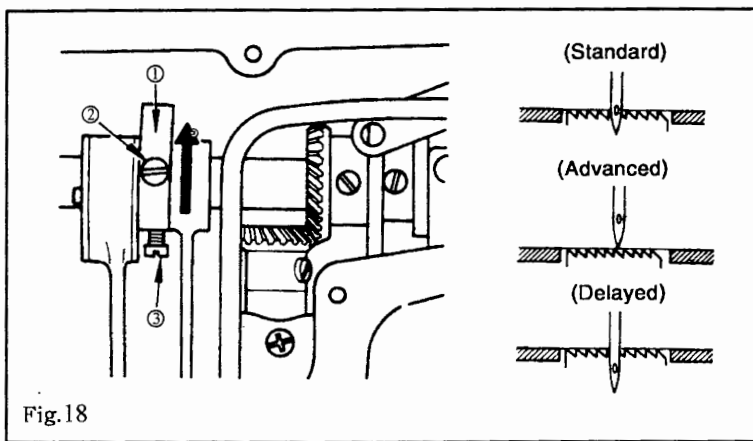

Fig.18
- 1) Loosen nut ②. As you turn presser spring regulator ① clockwise (in direction ①), the presser foot pressure will be increased.
- 2) As you turn the presser spring regulator counterclockwise (in direction ②), the pressure will be decreased.
- 3) After adjustment, tighten nut ②.
12. ADJUSTING THE FEED TIMING (Fig. 18)